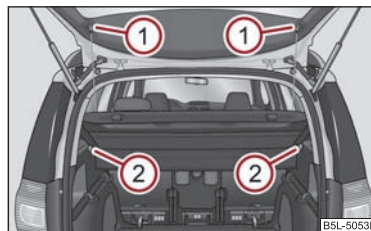

Fig. 72 Removing the luggage compartment cover
- Unhook the support straps ① ⇒ fig. 72.
- Pull the luggage compartment cover out of the holders (2) to the rear or press on the bottom side of the luggage compartment cover in the front area.
- Install again by pushing the luggage compartment cover forwards into the holder (2) and hanging the support straps (1) on the boot lid.